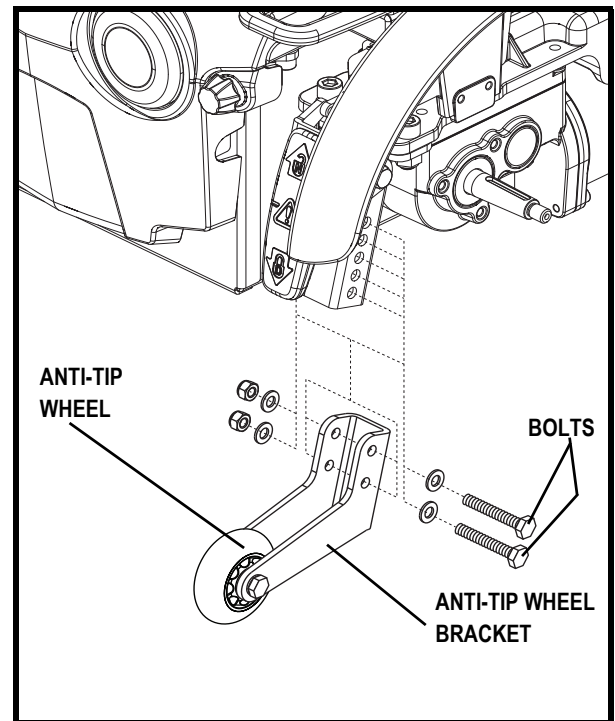

Figure 20. Anti-Tip Wheel Assembly
1. Remove both bolts from the anti-tip wheel bracket. See **figure 20**.
2. Raise or lower the anti-tip wheel in 1.25-cm (0.5-in.) increments by aligning the appropriate adjustment holes. See **figure 20**.